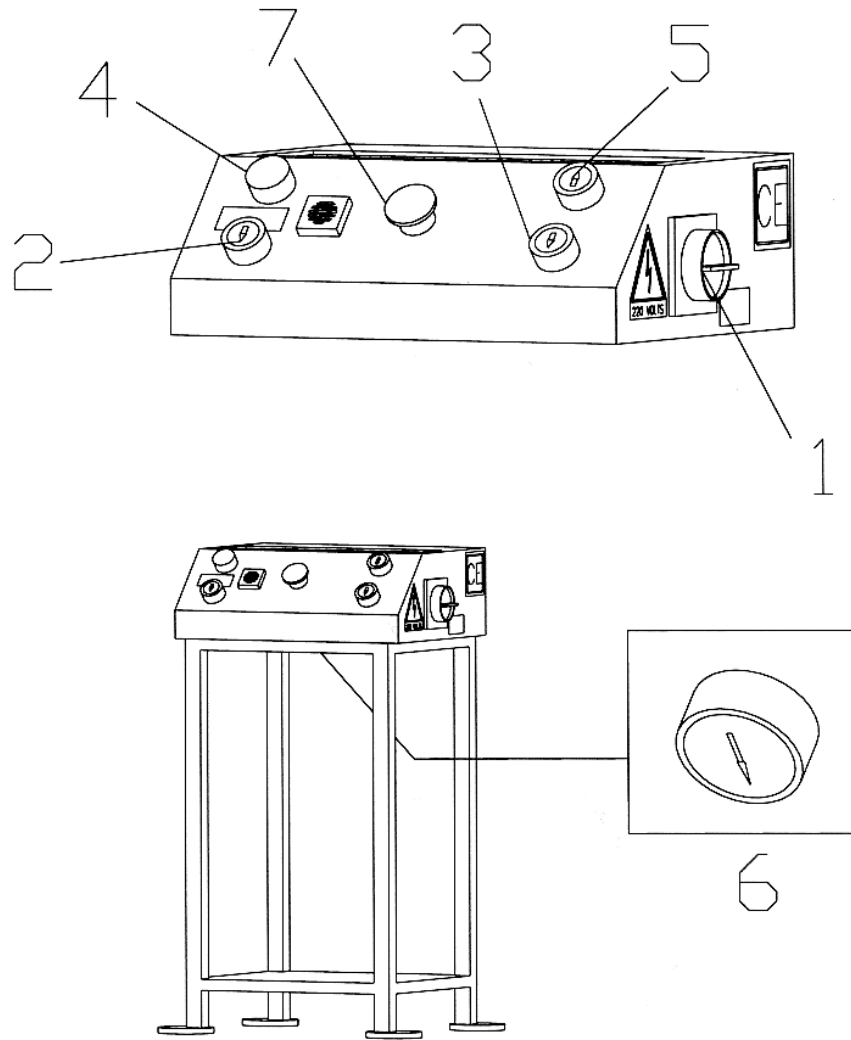

Figure 6 - Power unit and related controls
When all lines are connected, turn on the main switch (Figure 6, Item 1). Set the SELECTION switch to the required position, and check that the direction of the motor rotation is correct (counterclockwise) by pressing the UP key (Figure 6, Item 5). If the direction of rotation is not correct, interchange the two phases of the main switch.
5. To raise the runway P2 to the final top position, press the UP key (Figure 6, Item 5) and the RELEASE key simultaneously (Figure 6, Item 6 - having removed the front panel of the control desk). Hold these two keys pressed until both runways are raised fully to the final top position. Once the final top position has been reached, hold the keys pressed for a further 10 - 20 seconds to bleed the hydraulic system.
4. Check the pneumatic control operations for proper performance. By pressing the DOWN key (Figure 6, Item 3), the gear racks are disengaged.
5. Press the DOWN key (Figure 6, Item 3), and lower the runways completely.